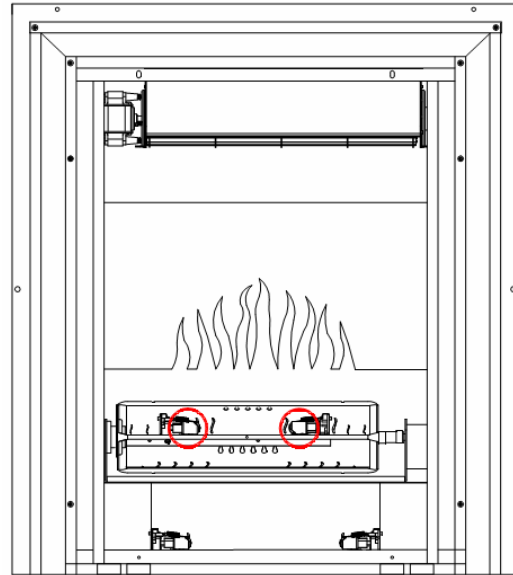

Figure 9
6. Remove the spring clip. Hold socket and pull out the old bulb.(See Figure9).